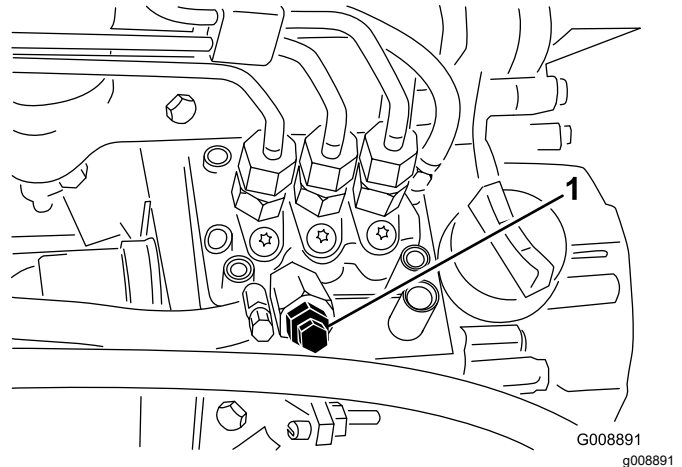

Figure 37
4. Open the air bleed screw on the fuel-injection pump (Figure 37).